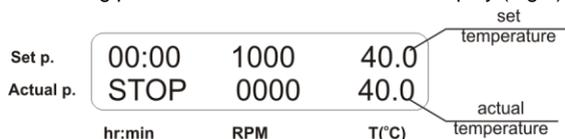

Fig. 3 Control panel in operation mode
- 5.8. Let us assume that the readings of independent sensor is 39°C, but the display's actual temperature is 40 °C (Fig. 3). Then it is necessary to add 1°C correction.